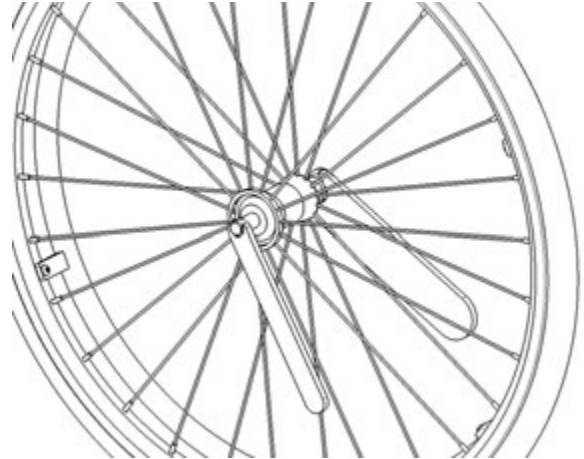

Fig. 23
- Hold the axle with a wrench at the other end (near the detent balls) (Fig. 23) and turn the nut behind the quick release button to change the length of the axle.